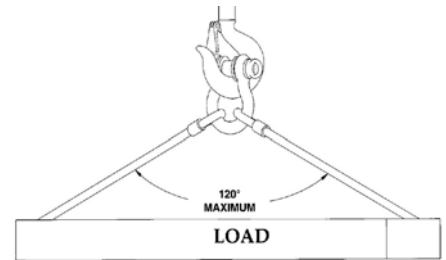

Fig. 10
- ⌚ Riggers do not exceed 120° included angle. (see Fig. 10)